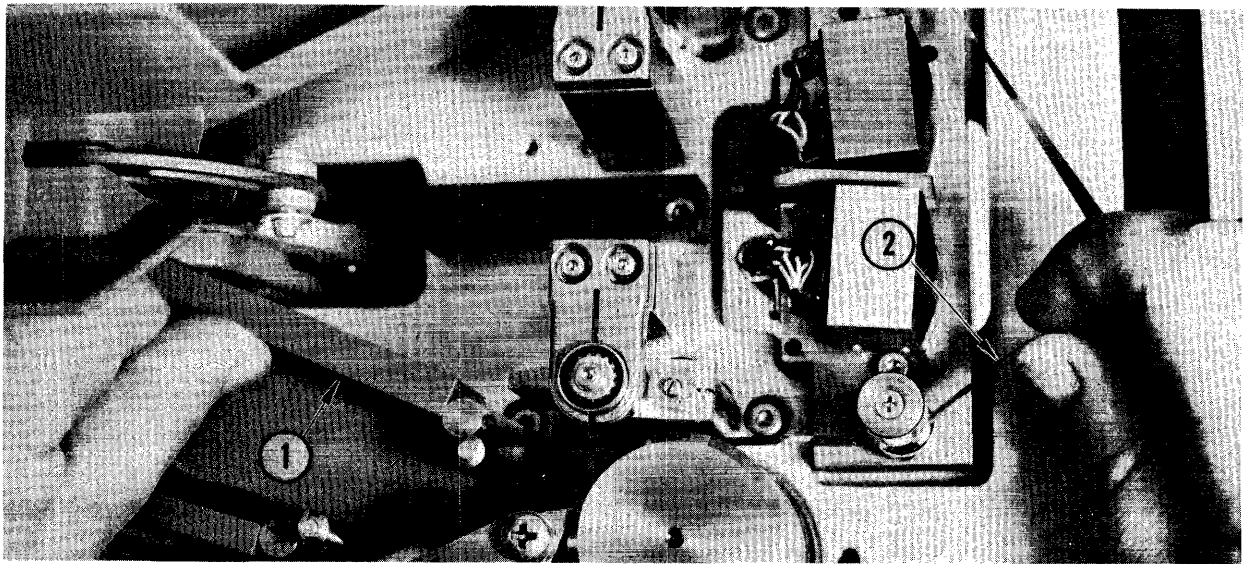

Figure 5-10.
- Step 1: Clamp tape against wall of vacuum chamber and hold other end of tape between head guide and head stack as shown in Figure 5-10.